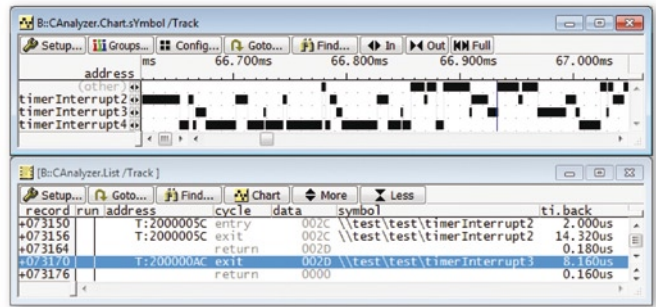

Fig. 1: Interrupt trace, Cortex M3.
- b) Trace sources that generate trace information for chip-internal IP (Intellectual Property), such as special interrupt traces (see Fig. 1).